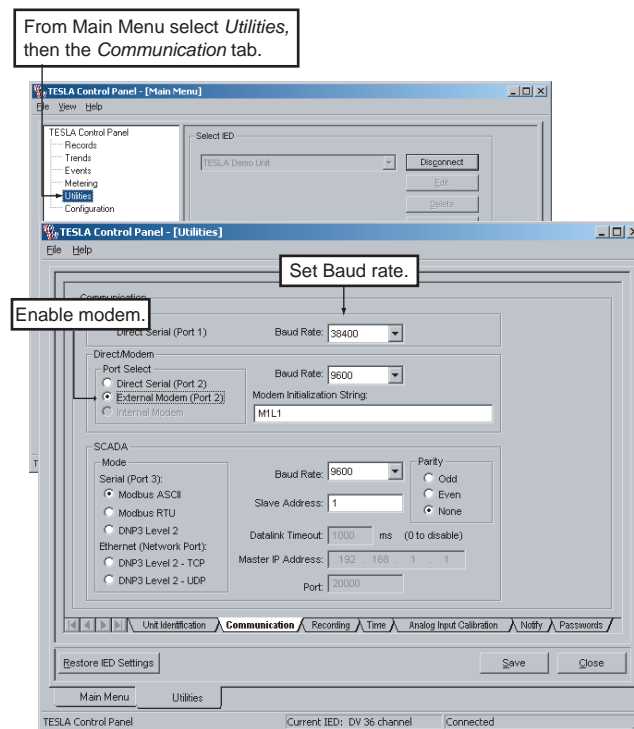

Figure 4.7: Communications Setup Utility
- Internal modem configuration is done in the same way as for an external modem. Modem Initialization String which is "M0" for internal modems (see Figure 4.7: Communications Setup Utility on page 7).